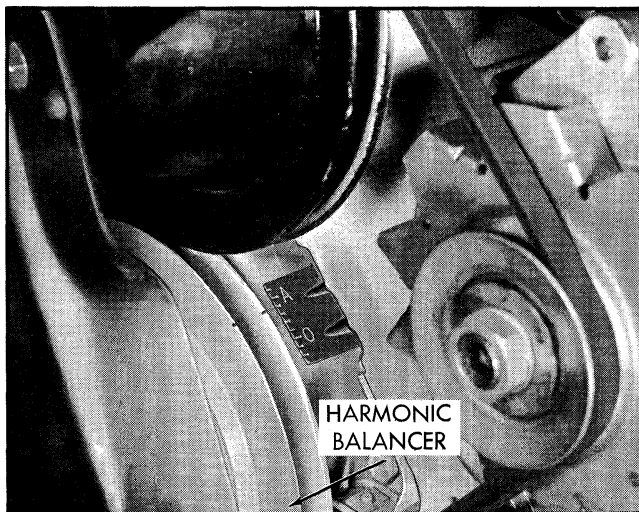

Fig. 11-62 Timing Marks - 6 Cylinder Engine
1. Check to see that engine is at firing position for No. 1 cylinder (No. 1 piston at top of compression stroke) and timing mark on harmonic balancer is indexed with pointer (Fig. 11-62).
Correct timing of the spark, with relation to engine piston position, is made in the shop by use of a power timing light and timing marks on the harmonic balancer (Figs. 11-62, 11-63).